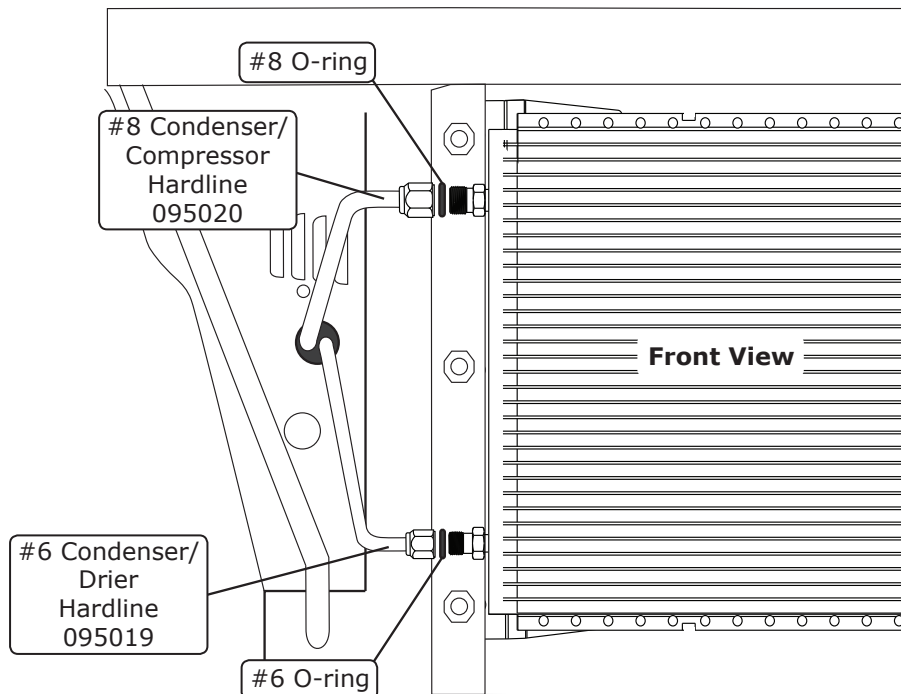

Figure 8
1. Lubricate a #6 O-ring (See Figure 7, Page 8), and install the #6 condenser/drier hardline as shown in Figure 8, below. Tighten the fittings as shown in Figure 7, Page 8.
2. Lubricate a #8 O-ring (See Figure 7, Page 8), and install the #8 condenser/compressor hardline as shown in Figure 8, below. Tighten the fittings as shown in Figure 7, Page 8.